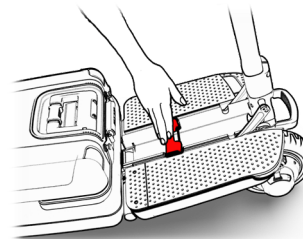

Figure 11
8. Place handle in its designated place (see Figure 11).